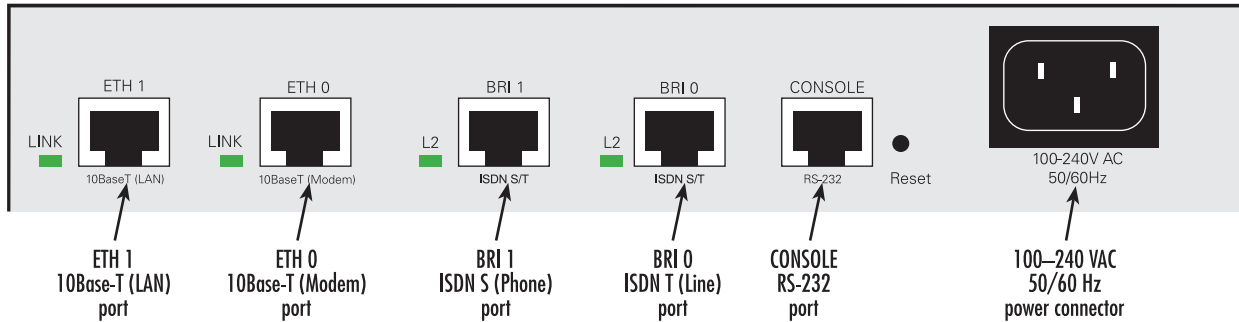

Figure 46. SmartNode 1400 connectors
1. Installing the 10Base-T Ethernet cable into ports *ETH 0* and *ETH 1* (see figure 46) (see “Installing the Ethernet cables” on page 83).
1. Insert the barrel type connector end of the AC power cord into the 100–240 VAC power connector (see figure 46).